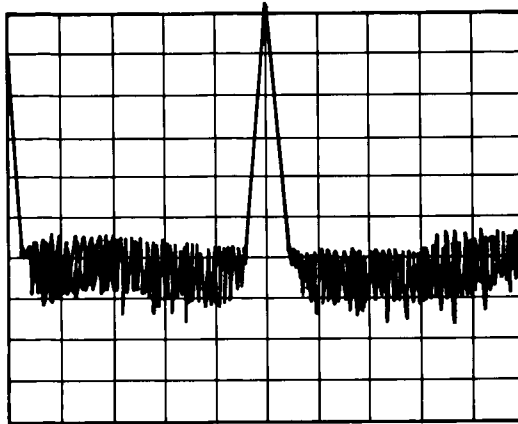

Figure 5-21. YO Loop Gain at A48J1
13. On the Sweep Generator press [**CW**] then adjust the rotary knob to set a frequency that will produce a center frequency readout on the Spectrum Analyzer of 25.0 MHz. (See Figure 5-21.) Turn off [**SIGNAL TRACK**] on Spectrum Analyzer.